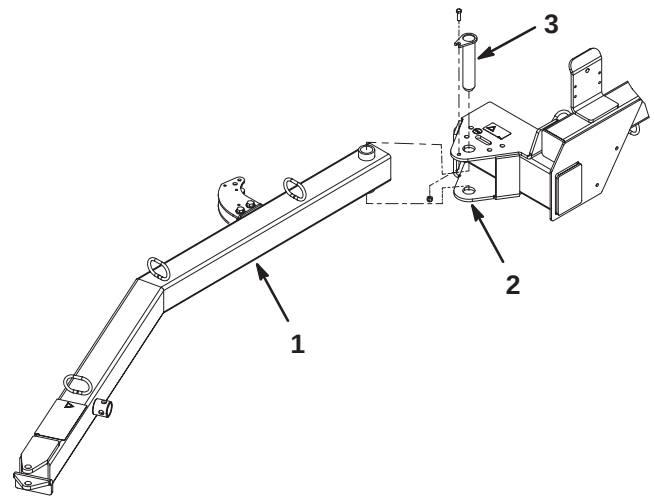

Figure 2
1. Insert the rear end of hitch tongue between the mounting plates on the sweeper while aligning the mounting holes (Fig. 2).
2. Secure the hitch tongue to the mounting plates with a hitch pin (Fig. 2).
3. Secure the hitch pin in the mounting plates with a 3/8-16 x 1-1/4" capscrew and a 3/8-16 locknut (Fig. 2).